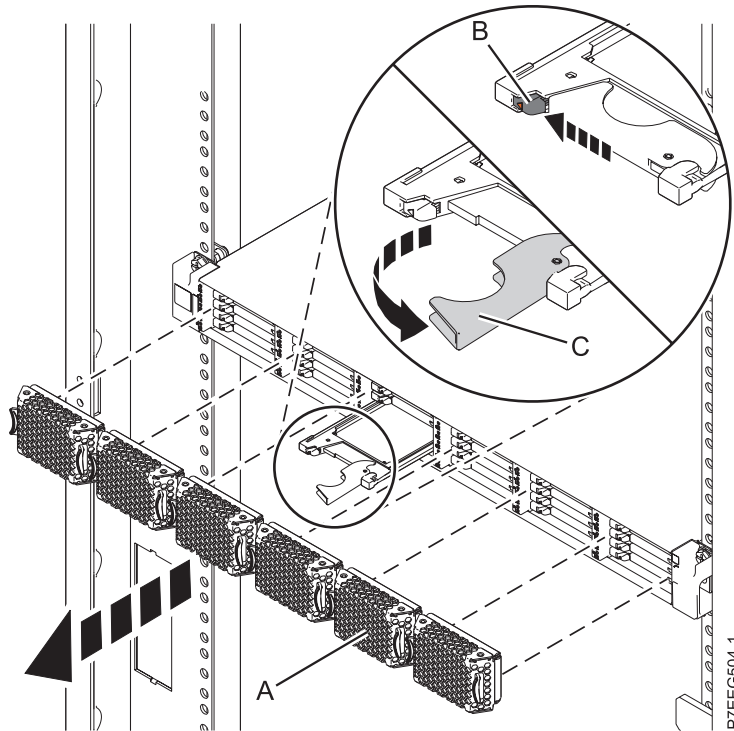

Figure 30. Removing the solid-state drive from the EDR1 PCIe storage enclosure
1. Pull off the bezel (A) that covers the slot containing the solid-state drive.
2. Slide the release latch (B) over gently to unlock the drive handle. See Figure 30 on page 45.